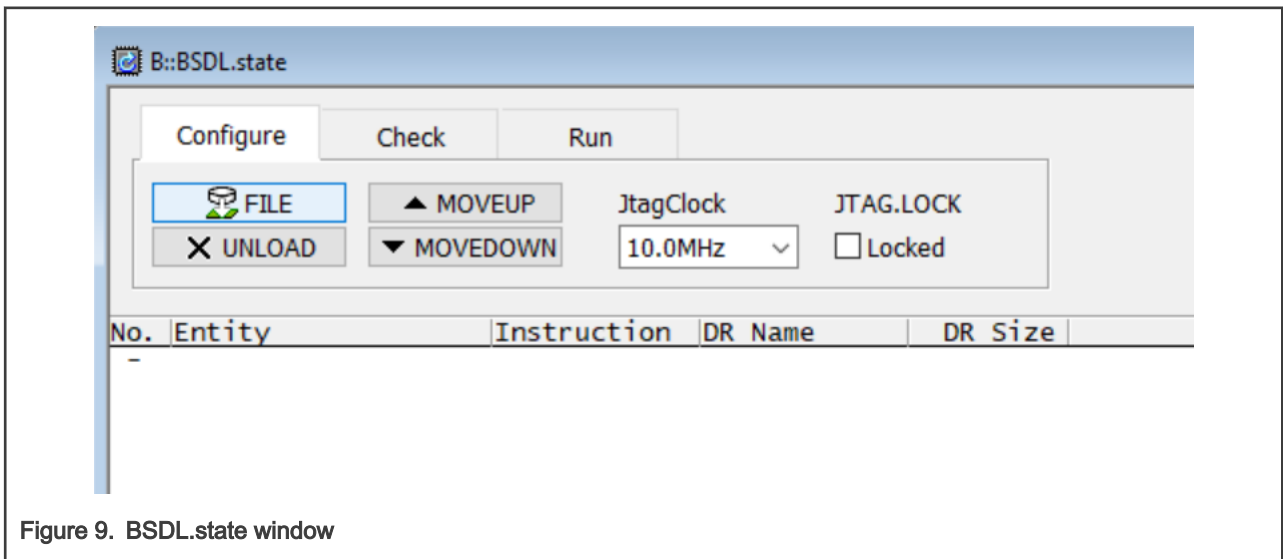

Figure 9. BSDL.state window
4. BSDL.state window should now appear. Click the **FILE** button and load the BSDL file you want to validate. Figure 9 shows the BSDL.state window.